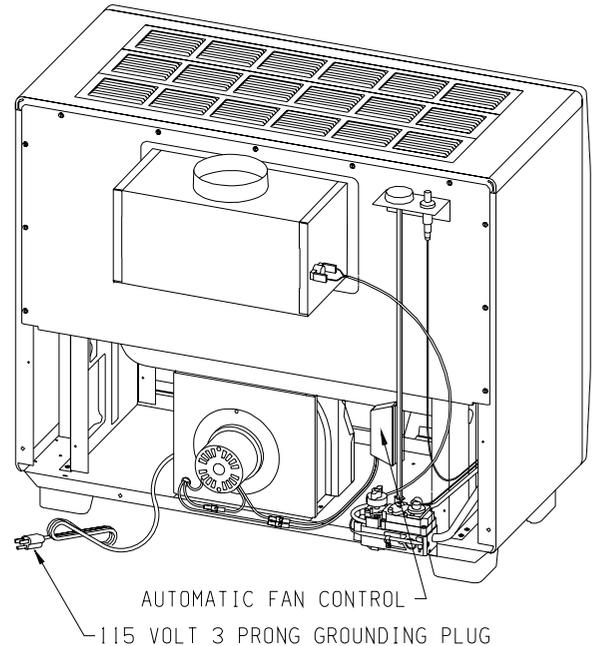

Figure 2
3. Align blower housing with blower cushion and use two, #10 x 1/2" (13mm) hex-head screws to attach blower housing to bottom assembly. (See Figure 2)